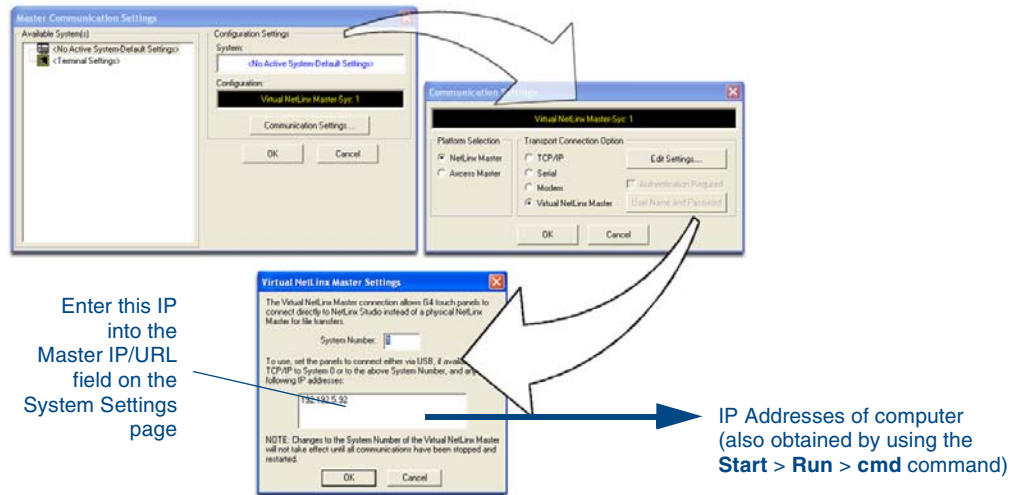

FIG. 49 Assigning Communication Settings and TCP/IP Settings for a Virtual Master
3. Select **Settings > Master Communication Settings**, from the Main menu to open the Master Communication Settings dialog (FIG. 49).
7. Click the **Edit Settings** button (*on the Communications Settings dialog*) to open the Virtual NetLinx Master Settings dialog (FIG. 49).